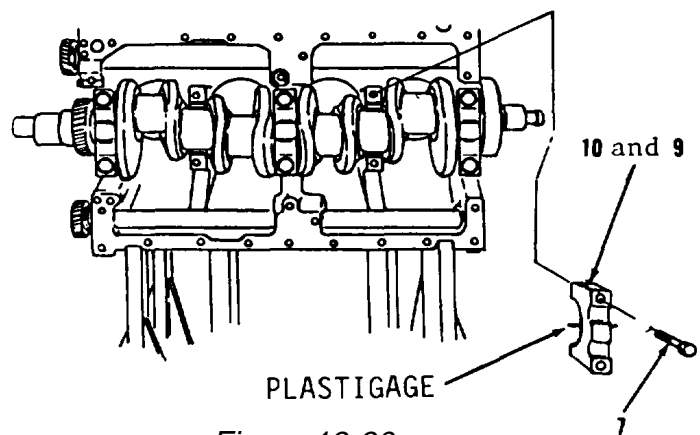

Figure 13-30.
6. Cut two pieces of plastigage approximately 1-1/2 inches long and position one piece on inside surface of bearing (10) in each of two crankshaft bearing caps (9, Figure 13-30).
11. Tighten two of four bolts (7) opposite tab side of two bearing caps (9) a further 90 degrees, using chalk mark as an aid in estimating how far to tighten bolts (7).
12. Remove four bolts (7) and two items 10 and 9 as an assembly (Figure 13-30).